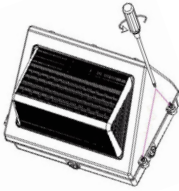

Fig. 1
2. Use a screwdriver to remove the screws on both sides of the front cover. (Fig.1)